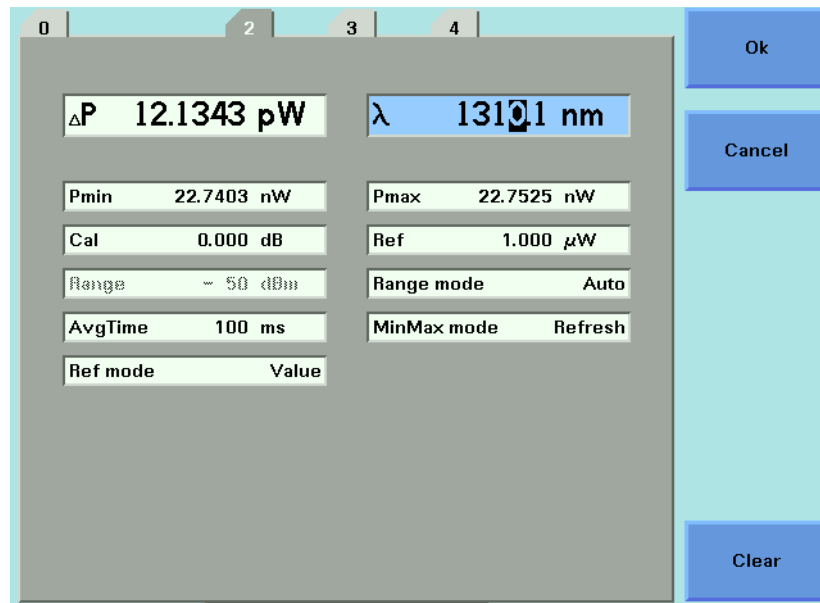

Figure 23 The First Digit Before the Decimal Point is Highlighted First
- 1 Press [Edit]. The first digit before the decimal point will be highlighted first, as shown in Figure 23.